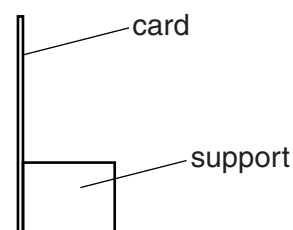

Fig. 3.2
- (iv) Screen. A white sheet of stiff card approximately 150 mm × 150 mm, fixed to a wooden support is suitable (see Fig. 3.2).